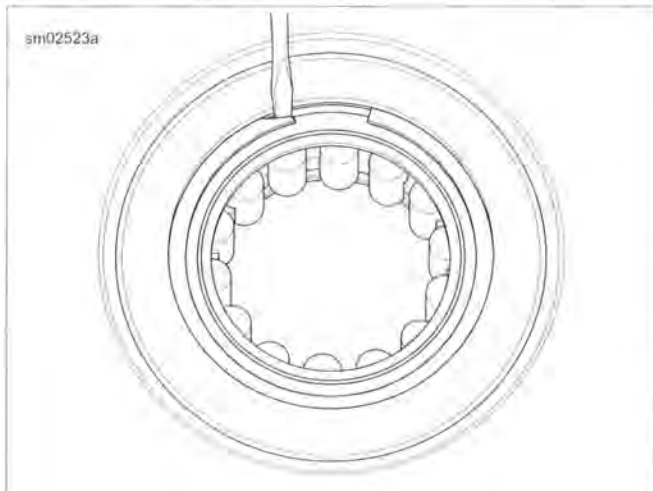

Figure 3-117. Removing Retaining Ring
5. See Figure 3-117. Using a flat blade screwdriver, carefully lift edge of bearing retaining ring up out of its groove in crankcase.